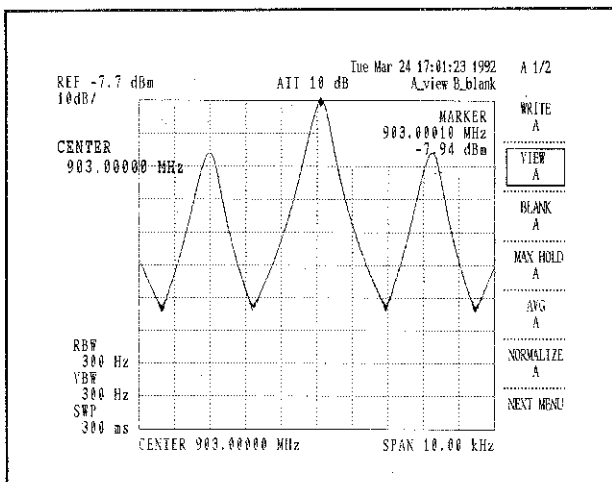

Figure 4-14 FM Signal f_c and E_c
- ② Write down the carrier frequency f_{c} (from the center frequency indicator) and the carrier level E_{c} (from the reference level indicator). (See Figure 4-14.)
- ③ Move the delta marker to the first side band and write down the frequency f_{SB} and level E_{SB} (from the delta marker indicator).